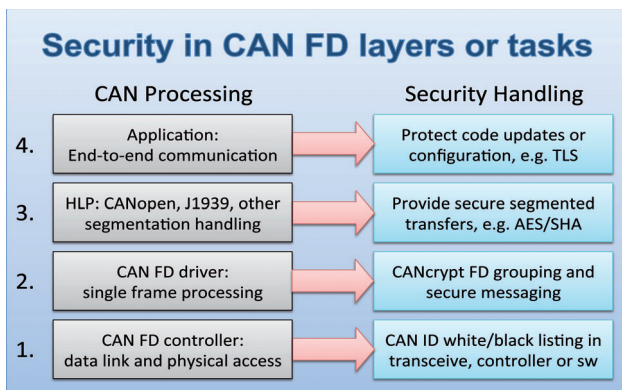

Figure 1: CAN layers and processes (Photo: EmSA)
Looking at possible CAN (FD) security solutions for individual layers, we can split these into four groups as illustrated in Figure 1: